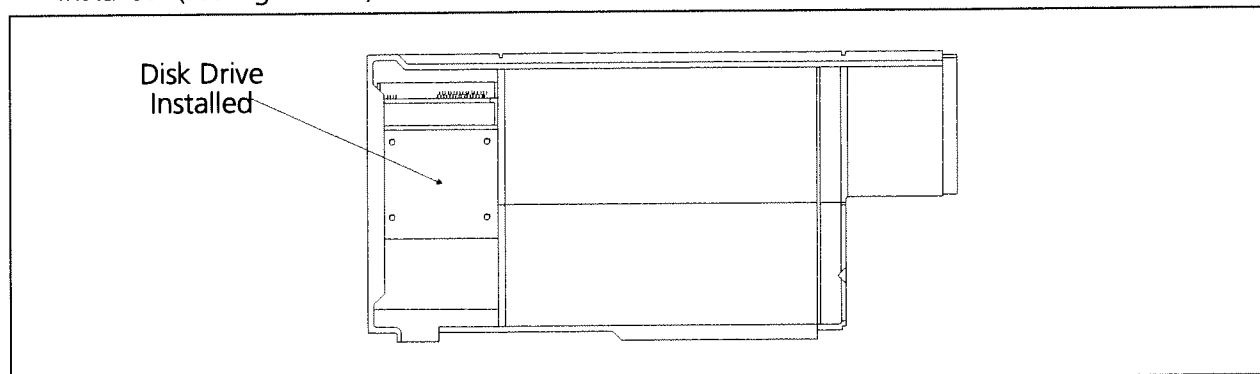

Figure A-4 New 4-Head Cover
3. Locate the "new" cover that came with the Disk Option kit. This cover will have the disk drive installed. (see Figure A-4)